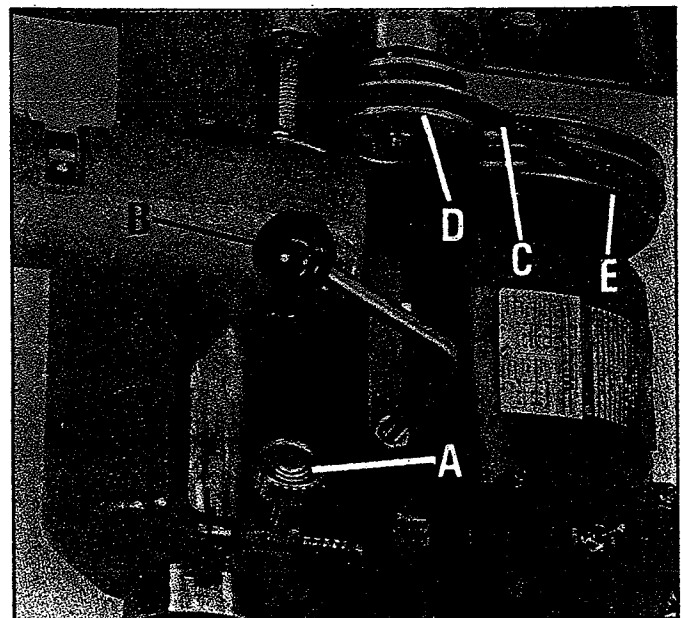

Fig. 19
2. Loosen lock knob (A) Fig. 19. Release tension on belt by pulling hand lever (B) to the left. Position belt (C) on the desired steps of the spindle pulley (D) and motor pulley (E) and apply belt tension by pushing hand lever (B) to the right. When desired belt tension is applied to belt, tighten lock knob (A) to hold motor plate in position.